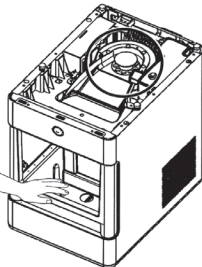

Figure 11
- Clean the sensors with vinegar and wipe clean with water. After draining the vinegar, run three rinse cycles, using fresh water for each rinse. See figures 11, 12, and 13 to reference location of the sensors. Appearance may vary based on model.